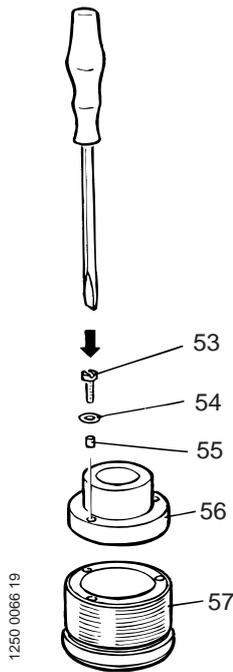
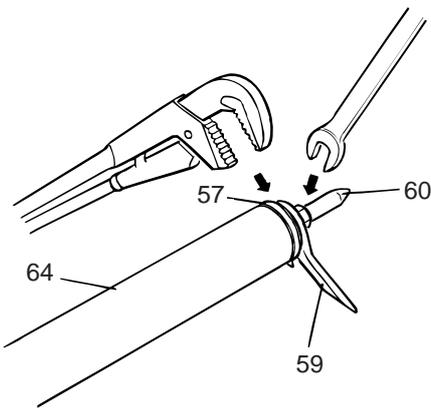

Fig. 5
Fig. 6
1. Check that the cylinder barrel (64) is free of scratches and dents. Minor scratches can be removed with the aid of a suitable whetstone. In the event of more serious damage, change the cylinder barrel.
2. Check that there is no external damage on the damper (56). Change the damper if it is chipped or has lost its resilience. Remove the damper (56) by removing the three screws (53) together with the washers (54) and sleeves (55). See fig. 5.
3. Check that the O-ring (47) is not damaged. If it is damaged or feels dry and brittle, it must be changed.
1. Fit the three sleeves (55) into the damper (56) with the aid of a press.
2. Fit the O-ring (47) on to the end piece (57).
3. Fix the damper (56) securely to the end piece (57) using the three screws (53) and washers (54). See fig. 5.
4. Now thread the complete end piece (57) into the cylinder barrel (64).
5. Fit the pin (58) into the end piece (57), and fit the support (59) so that it locates on the pin. Now tighten the spike (60) using a 28 mm combination spanner. See fig. 6.
6. Fit the end piece (57) using a pipe wrench. See fig. 6.